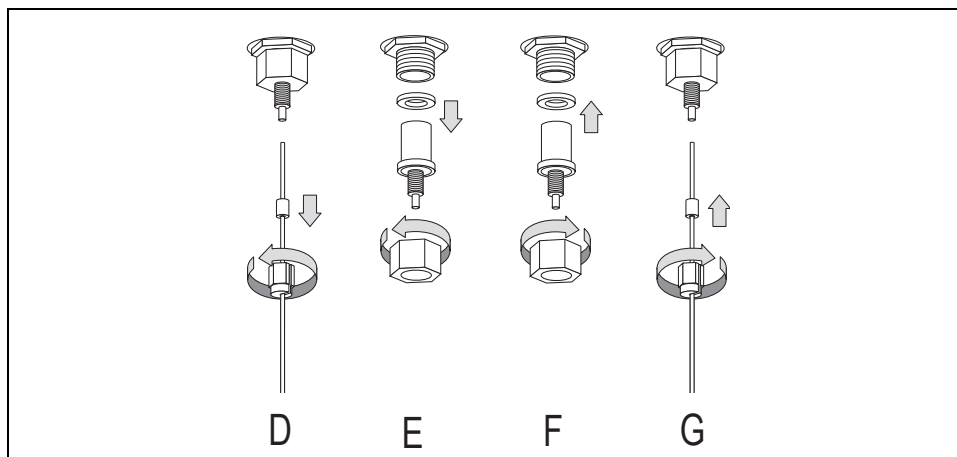

Figure 15-3. Replace a Broken Liner
- a. Unscrew the nut that retains the analytical column, then move the analytical column with its ferrule. See D of Figure 15-3.
- b. Unscrew the retaining nut at the bottom of the injector, then remove the terminal fitting with its silver seal. See E of Figure 15-3.
- d. Reinsert the silver seal and the terminal fitting, and then tighten the nut that retains the terminal fitting. See F of Figure 15-3.
- e. Insert the analytical column with its ferrule into the bottom of the injector in its previous position, then tighten the M4 retaining nut to hold the column in place. See G of Figure 15-3.